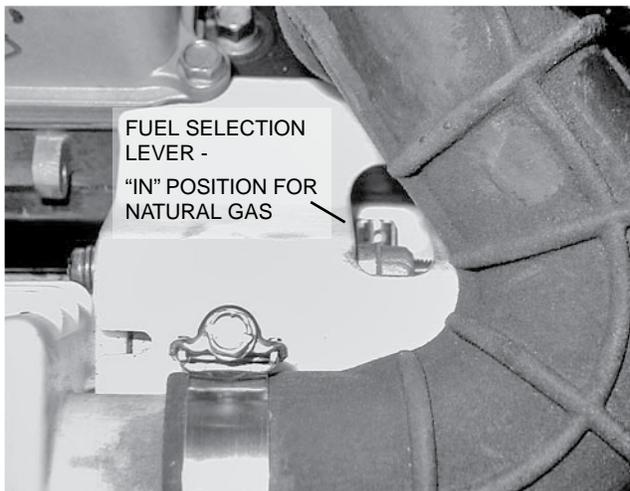

Figure 2. 10 kW, GT-530 (Inlet Hose Slid Back)
- Slide fuel selector on carburetor out towards the back of the enclosure (Figures 2 and 3).